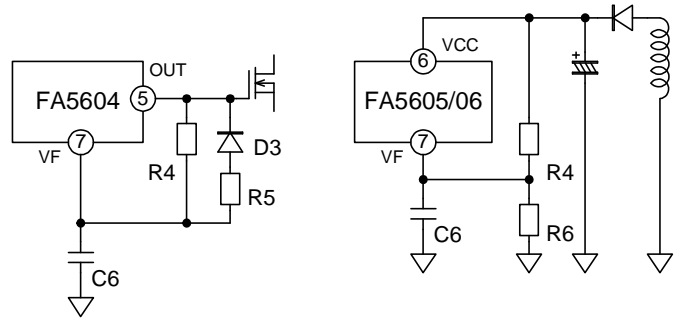

Fig.28
For this IC, as shown in Fig. 28, it is possible to correct the overcurrent limit in order to obtain the output characteristics like (2) by smoothing the OUT terminal voltage by R4 and C6 and apply it to the VF terminal for the forward circuit, or by applying the VCC voltage to the VF terminal for the flyback circuit. In addition, it is possible to obtain the output characteristics like (3) by adding R5 and D3 to correct it
Moreover, when the overvoltage protection function is made effective, you set external pull-up to exceed the latch threshold voltage 7.3V by using the zener diode ZD and the resistor R (Fig.28). In that case, the zener voltage Vz should consider the voltage (R×Iz) of the resistor R.